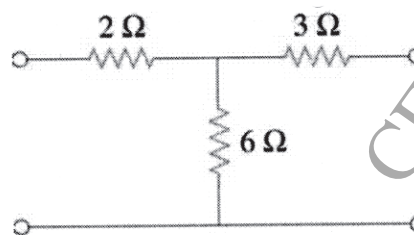

Fig. 2
b) Find h-parameters for the network shown in Fig. 2. [6]